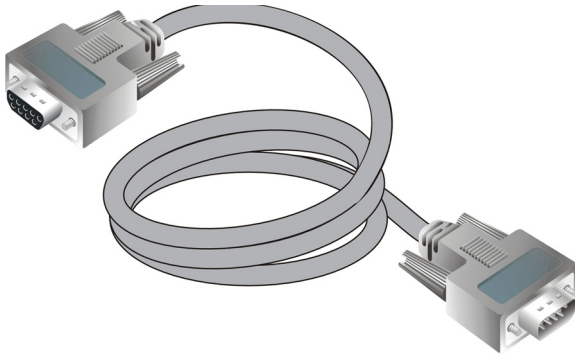

Figure 1-22: Null Modem Cable
- **Null modem cable** - An asynchronous RS-232 null modem cable is required to configure switch network addresses and acquire event log information through the maintenance port. The cable has nine conductors and DB-9 male and female connectors. A null modem cable is not a standard (straight-through) RS-232 cable. Refer to Figure 1-22.